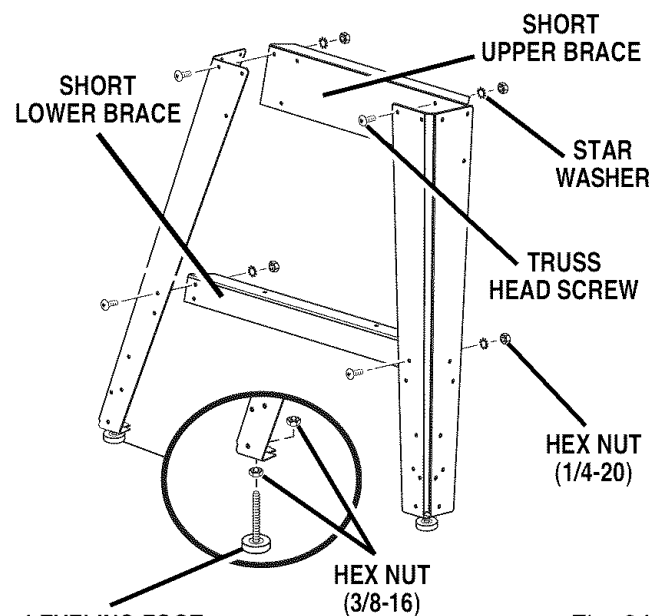

Fig. 9A
See Figures 9A - 9C.
- Place a 3/8-16 hex nut on each leveling foot and insert leveling feet into the bottom of the legs. Cap with remaining 3/8-16 hex nuts but only finger tighten. See Figure 9A.
- Install a short lower brace on the legs. See Figure 9A.